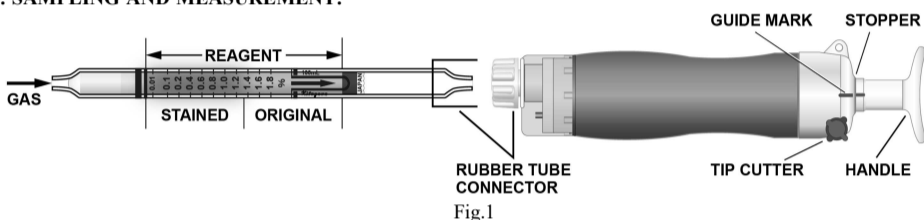

Fig.1
- ① Break both ends of the detector tube.
- ② Insert the detector tube into the aspirating pump securely as shown in Fig.1. (Arrow mark shall point to the pump.)
- ③ Align the guide marks on the shaft and stopper of the aspirating pump.
- ④ Pull the pump handle at full stroke until it locks and wait for 1.5 minutes or until the completion of sampling is confirmed with the flow indicator of the pump. (See descriptions about the flow indicator in the instructions manual of the pump.)
- ⑤ On completion of sampling, read the scale at the maximum point of the stained layer.
- ⑥ In case of 2 pump strokes, push the handle once more without removing the detector tube from the pump inlet, and air in the pump will be discharged perfectly.
- ⑦ In this case, actual concentration is half of the reading value.
- ⑧ If the discolouration is over the scale, change the tube and pull 1/2 strokes.